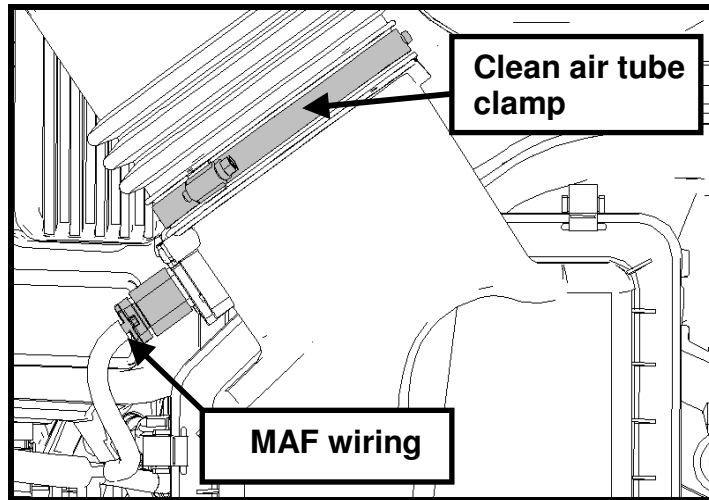

Fig. 1
STEP 3: Disconnect the MAF wiring from the airbox. Loosen the clean air tube clamp and disconnect the clean air tube from the airbox (See Fig. 1).